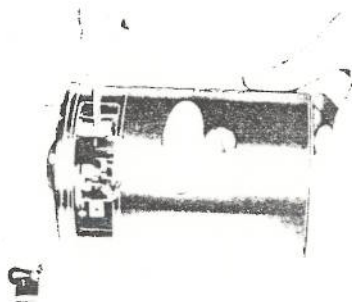

Fig. 10-45
- (4) Remove the screw on the joint portion of the field coil to the carbon brush and then slacken the nuts on the terminal. Then remove these parts from the yoke by lightly hitting the end cover with a wooden hammer or hide mallet. (See Figs. 10-45 and 10-46)